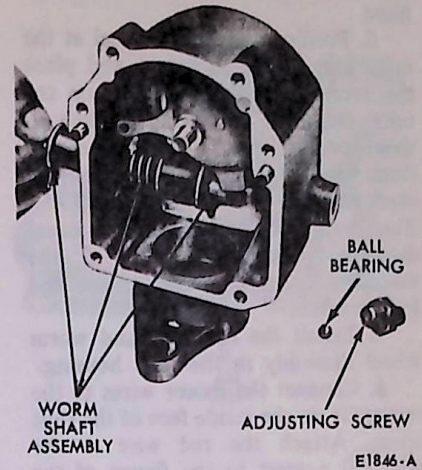

FIG. 45 Removing Worm Shaft
3. Loosen the lock nut and worm shaft adjusting screw, and remove the worm shaft assembly being careful not to lose the ball bearing that rides in the recess of the adjusting screw (Fig. 45).